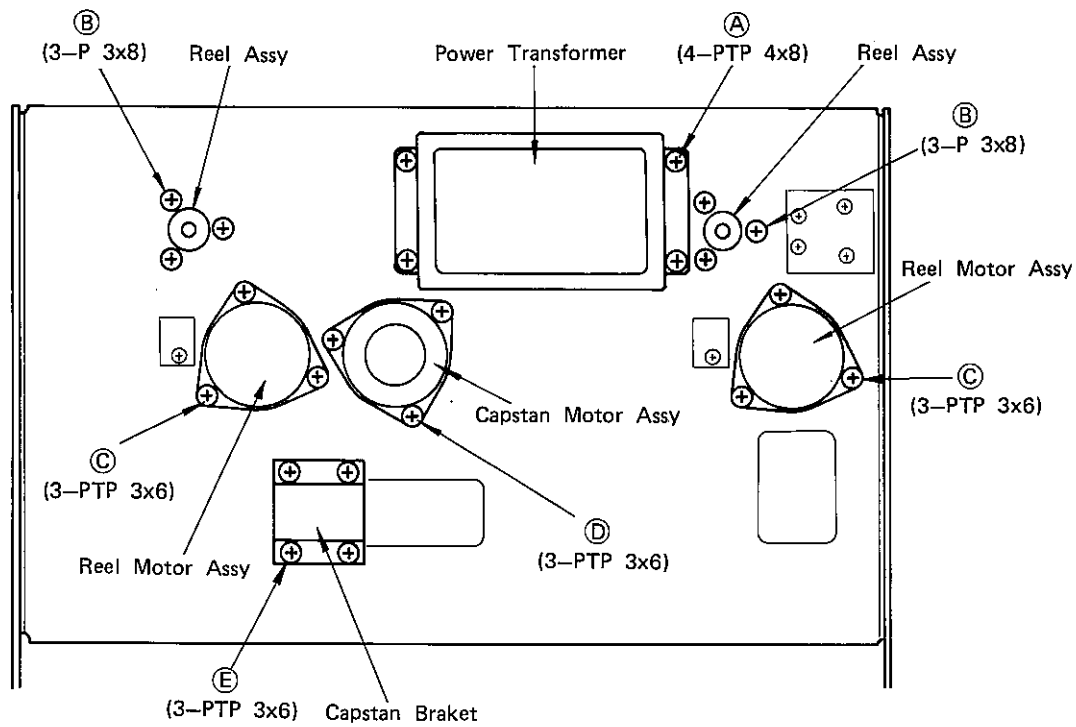

Fig. 6-7
10) Power transformer (Fig. 6-7)
- * Remove the four (A) screws.
11) Reel assembly (Fig. 6-7)
- * Remove the three screws (B) and the reel assembly can be taken out from the front side of the recorder.
12) Reel motor assembly (Fig. 6-7)
- * Remove the three screws (C) and the reel motor assembly can be taken out.
13) Capstan motor assembly (Fig. 6-7)
- * Remove the three (D) screws and the capstan motor assembly can be taken out.
- * Remove the four (E) screws, shown in Fig. 6-7, and after removing the capstan shaft thrust bracket, replace the belt through the cutout on the right side of the bracket.